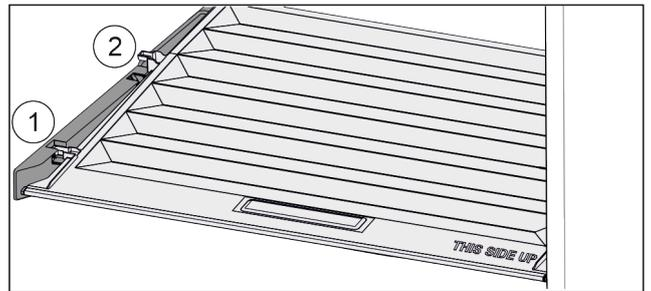

Fig. 147
- ▶ Pull the lid up at the front in the retaining parts to the opening Fig. 147 (1).
- ▶ Lift from the back and pull it up and out Fig. 147 (2).